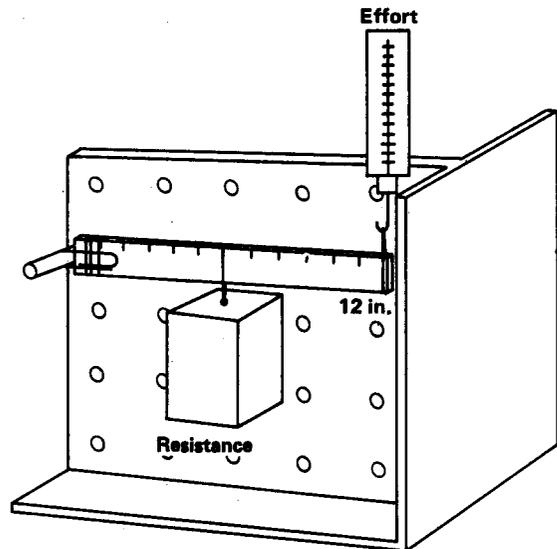

Figure 6-30
3. Hook the loop formed by the clip over the pegboard support rod. Suspend the wooden block by thread from the 6-in. position on the ruler. Support the other end of the ruler with the spring scale attached to a loop of thread (Fig. 6-30). Record in Table 6-5 the effort needed to support the block with the spring scale.
b. What class lever is represented in Fig. 6-30?
4. Move the resistance force R (Fig. 6-30), to the 9-in. position on the ruler. Complete the first column in Table 6-6.